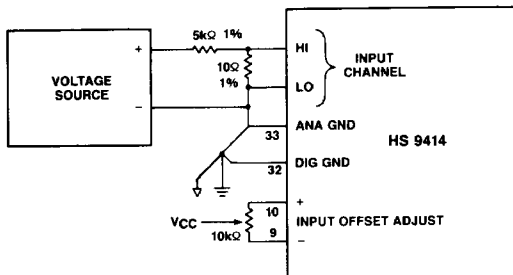

Figure 10. Suggested SPGIA Input Offset Calibration Circuit
- a) Apply  $1/2$  LSB to the input channel via a 500:1 attenuator as shown in Figure 10 or via the external front end circuitry.  $1/2$  LSB at gain of 500 is  $4.8 \mu\text{V}$  for 20V range units (HS 9414X-2) and  $2.4 \mu\text{V}$  for 10V range units (HS 9414X-1).